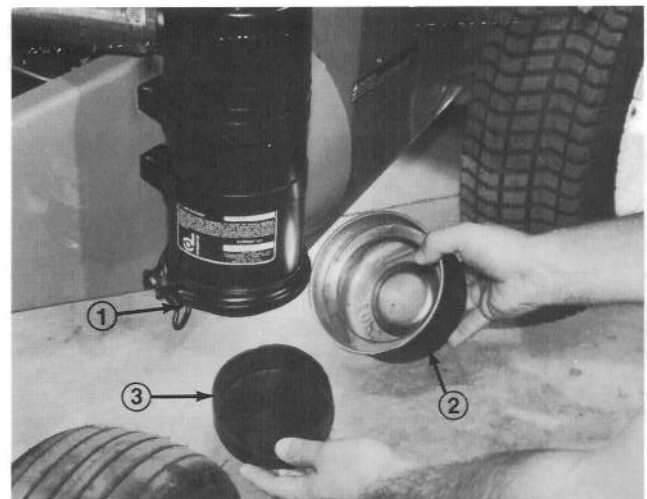

Figure 42
1. Loosen thumb screw until dust cup and baffle can be removed (Fig. 42). Separate dust cup and baffle.